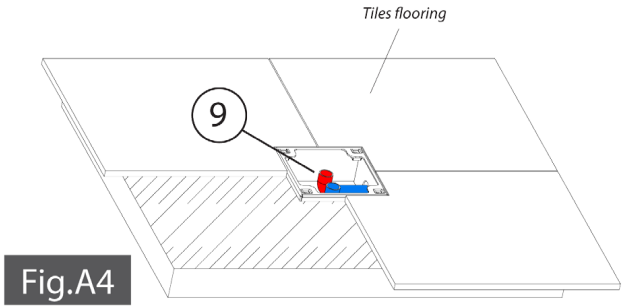
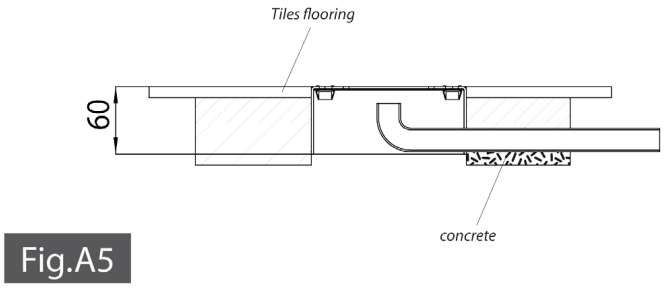

Fig.A4
Fig.A5
- Caution! Complete the flooring (Figure A4), making sure that the upper edge of the concealed box (9), is perfectly aligned to the floor level (Figure A5).
- Preassemble the straight pipe (2) and the base (3) pulling the hot and cold water inlet hoses (10) out from the bottom of base (3). (Figure B)
- Caution : Assemble the base (3) with the vertical tube (2) according to the desired shower jet direction (Figure B). Remind that the M4 screw hole (a) is opposite to shower head direction.
- Connect the two hot and cold inlet flexible hoses (10) to corresponding hot and cold water pipes in the concealed box (9). (Figure C).
- Secure the base (3) with the M8x70 mm screws (4) (Figure C). Pay attention that the M4 screw (a) is opposite to the desired shower head position
- Assemble the curved shower pipe (1) with straight pipe (2) pulling the supply flexible hose (5) out from upper curved pipe. Secure the two pipes at their connecting point with screws (6), (Figure D)
- Screw supply flexible hose nut (5) to the threaded nut (8) and secure it to shower pipe outlet (1) with screws (6) (Figure D).
- Align the straight and curved tubes (1) & (2) (an adjustment range  $\pm 5^\circ$  is allowed) and tighten the M4 adjusting screws (11) (Figure E).